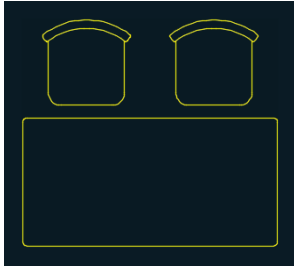

FIGURE 7.11 Copying a block reference
7. Click the Copy tool in the Modify panel, type L (for Last), and press Enter twice. Click an arbitrary point on the drawing canvas, type $@2'6<0$ (or $@80<0$ for metric), and press Enter to copy a chair to the right (see Figure 7.11). Press Esc to end the COPY command.